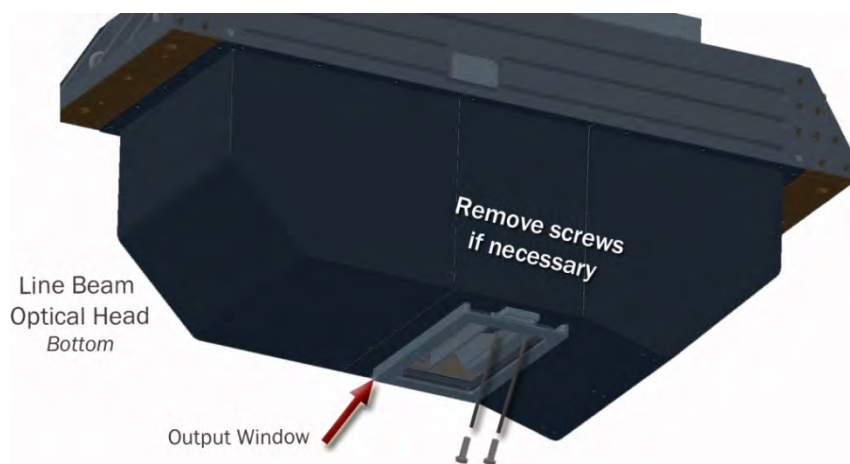

Figure 37: Output Window Screws
2.	If necessary, remove the two screws securing the existing Output Window inside the frame assembly. See Figure 37.